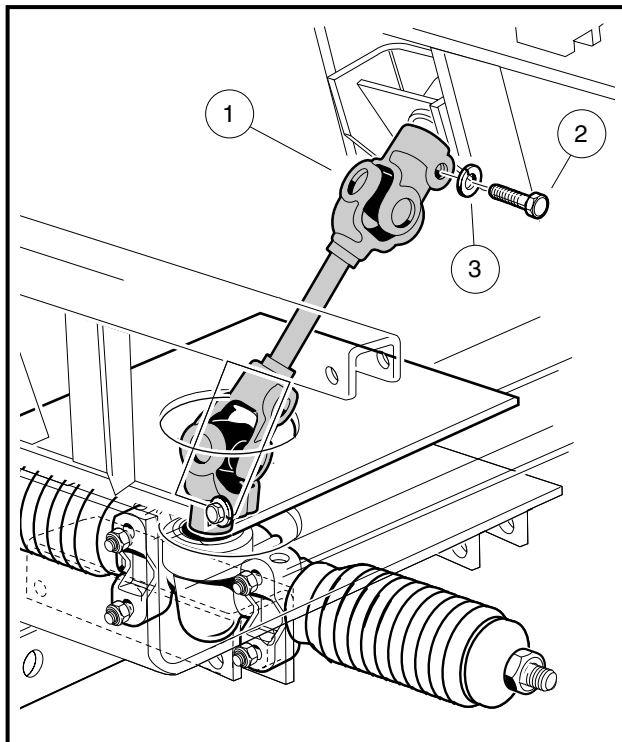

Figure 7-4 Steering Joint Assembly
8. Remove the upper bolt (2) and lock washer (3) from the steering universal joint (1) (**Figure 7-4, Page 7-5**).
10. Disconnect the steering universal joint (1) from the steering column shaft and remove the steering column from the vehicle (**Figure 7-4, Page 7-5**).
4. Install the bolt (2) and lock washer (3) on the upper steering joint and finger tighten (**Figure 7-4, Page 7-5**).